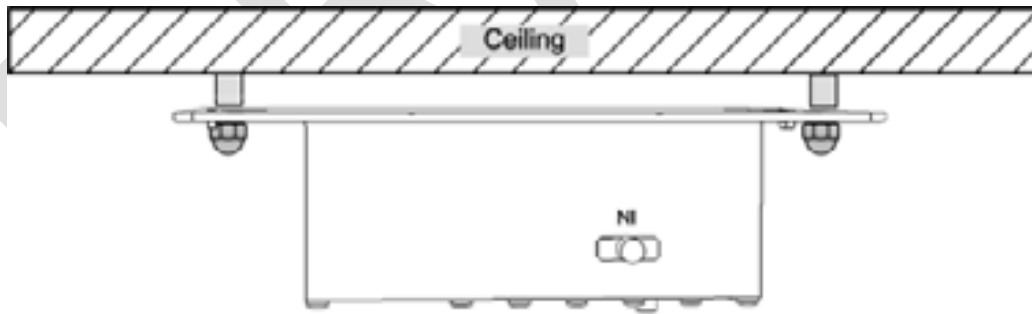

Figure 5-98. Illustration of Cavity Filter Mounted on Ceiling
- Mount the Cavity Filter as shown in Figure 5-98.